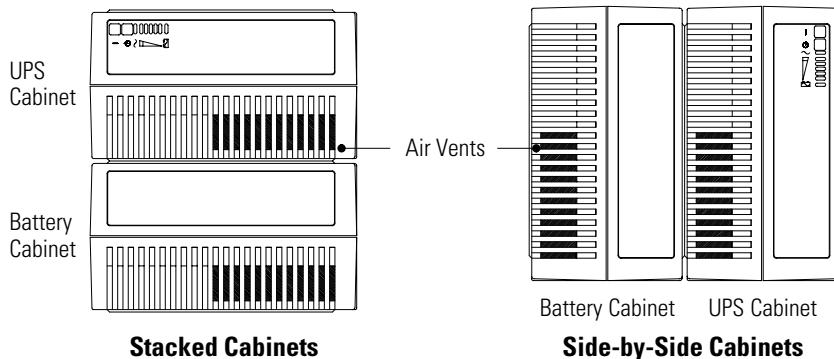

Figure 3. Cabinet Setup
2. Place the battery cabinets underneath or beside the UPS as shown in Figure 3.